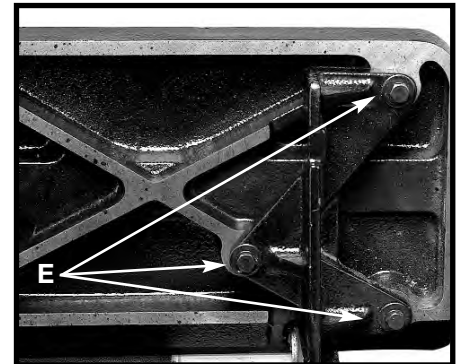

Fig. 29
2. To adjust, loosen the three (3) screws (E) Fig. 29, located underneath the table. Move the table (A) until the miter gauge slot is parallel to the sanding belt. Tighten the three (3) screws (E).